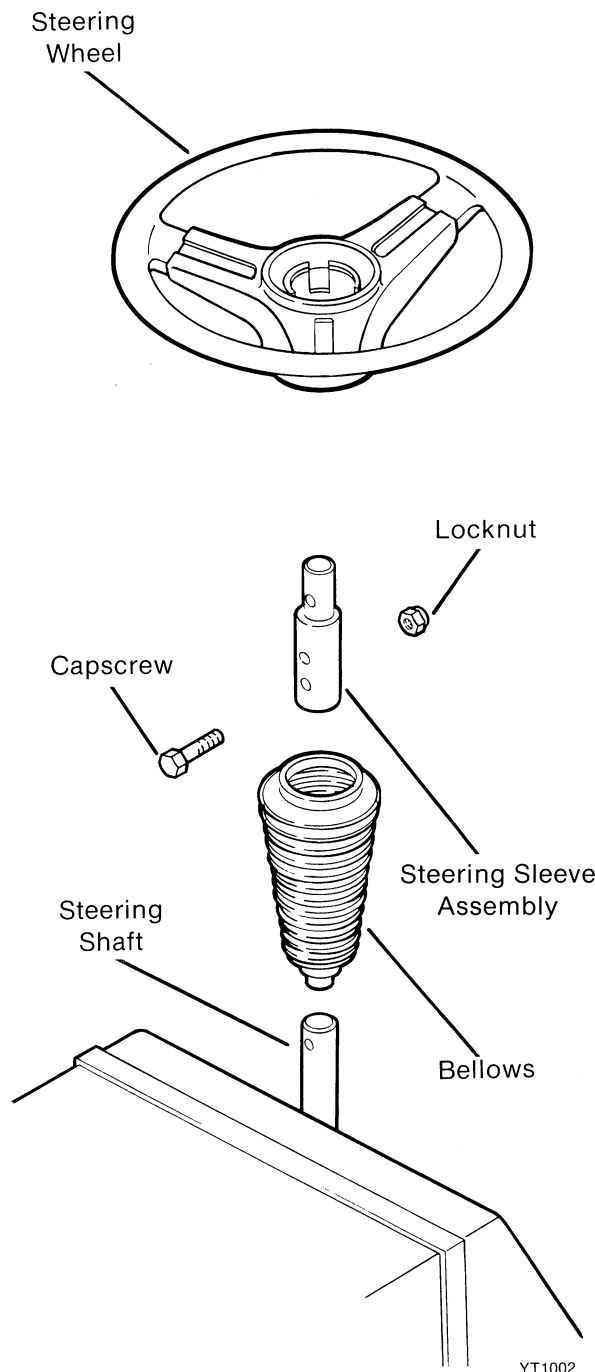

FIG. 15
- K. **17 H.P. Engines Only** - follow next five (5) steps, "a" through "e".
- a. Compress steering shaft bellows to expose capscrew through steering sleeve assembly. (Fig. 15) Remove capscrew and locknut. Lift steering wheel assembly and bellows off steering shaft.